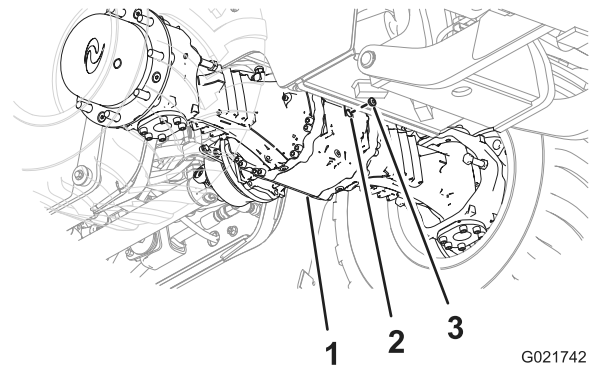
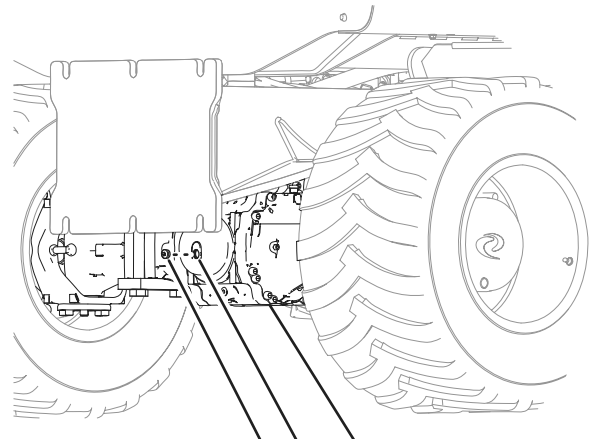

Figure 67
Figure 68
3. Look through the sight port and check that the oil level in the axle is level with the bottom of the threads of the port (Figure 67 and Figure 68).
6. Install the sight plug into the sight port in the pinion housing of the axle (Figure 67 and Figure 68).